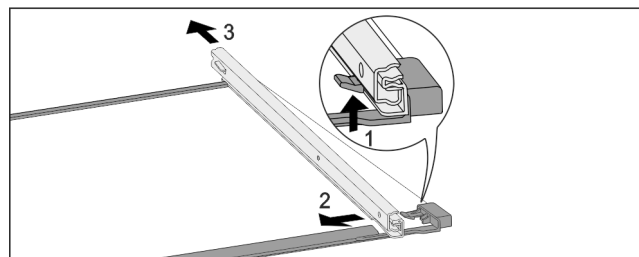

Fig. 141 Glass shelf with rails
- ▶ Push up front click-in hooks. Fig. 141 (1)
- ▶ Slide pull-out rails to the side Fig. 141 (2) and backwards Fig. 141 (3).